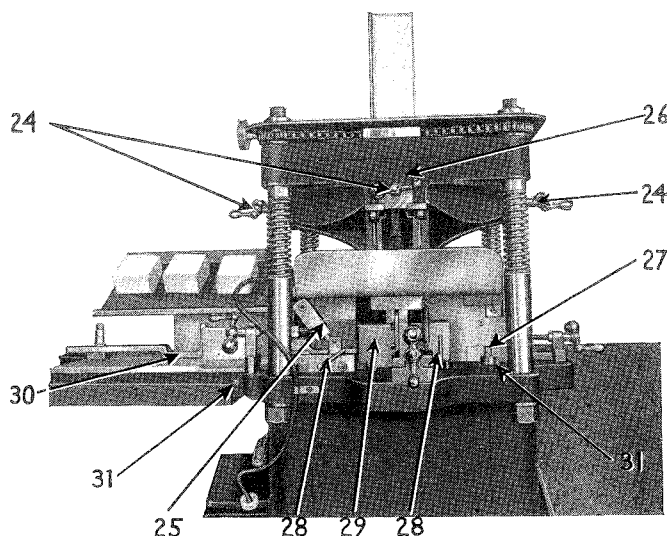

Figure 11
1. Inch the machine by alternately pushing the start and stop buttons until the ram is in the lowest position and pointer on shuttle carrier lines up with line on table. Release guide locks (No. 28, Fig. 11, Page 8).
The die can be moved backward or forward or to the right or left by loosening the die holder clamp (No. 24, Fig. 11) and tightening the opposing clamp.
Two oilers (Nos. 27 and 31, Fig. 11, Page 8) are easily located on the machine. A third oiler is located on the front of the column directly above the motor. Oil daily with any good grade of light weight machine oil.